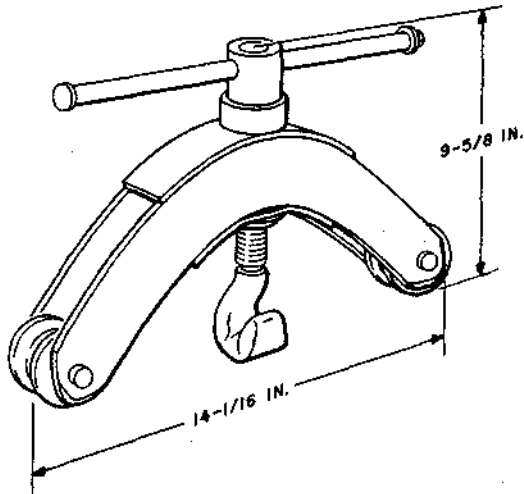

Fig. 2—E Slack Puller
3.02 The E slack puller (Fig. 2) is similar to the F slack puller except that it is operated by a sliding removable handle instead of a ratchet.